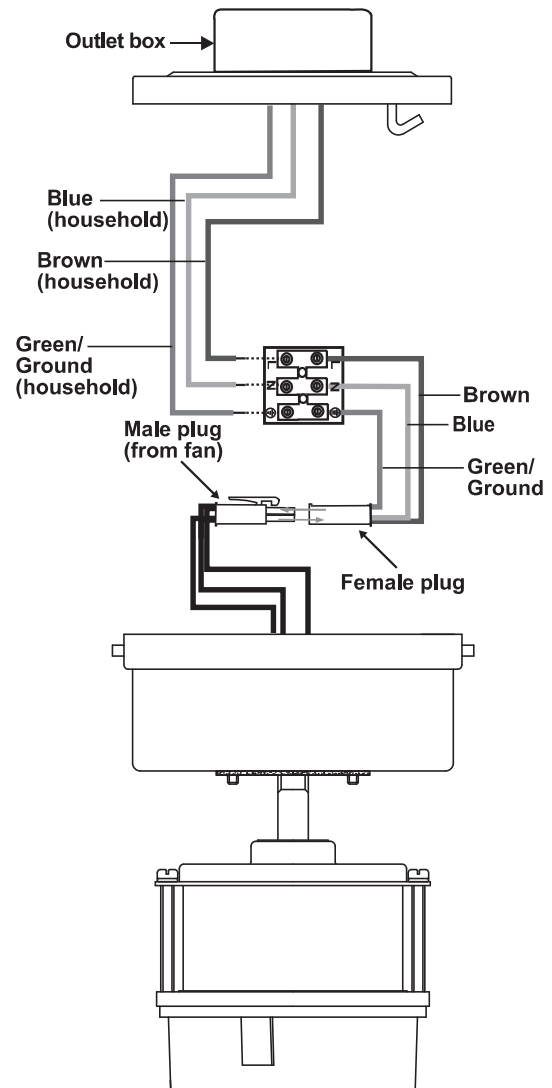

Figure 6
1. Connect the blue, neutral household neutral wire to the terminal block "N" hole. Connect the brown, hot household neutral wire to the terminal block "L" hole. (Fig. 6)
2. Connect the green/ground wire from the household to the terminal block "⊕" hole. (Fig. 6)
3. Be sure to snap together the male and female plugs. (Fig. 6)